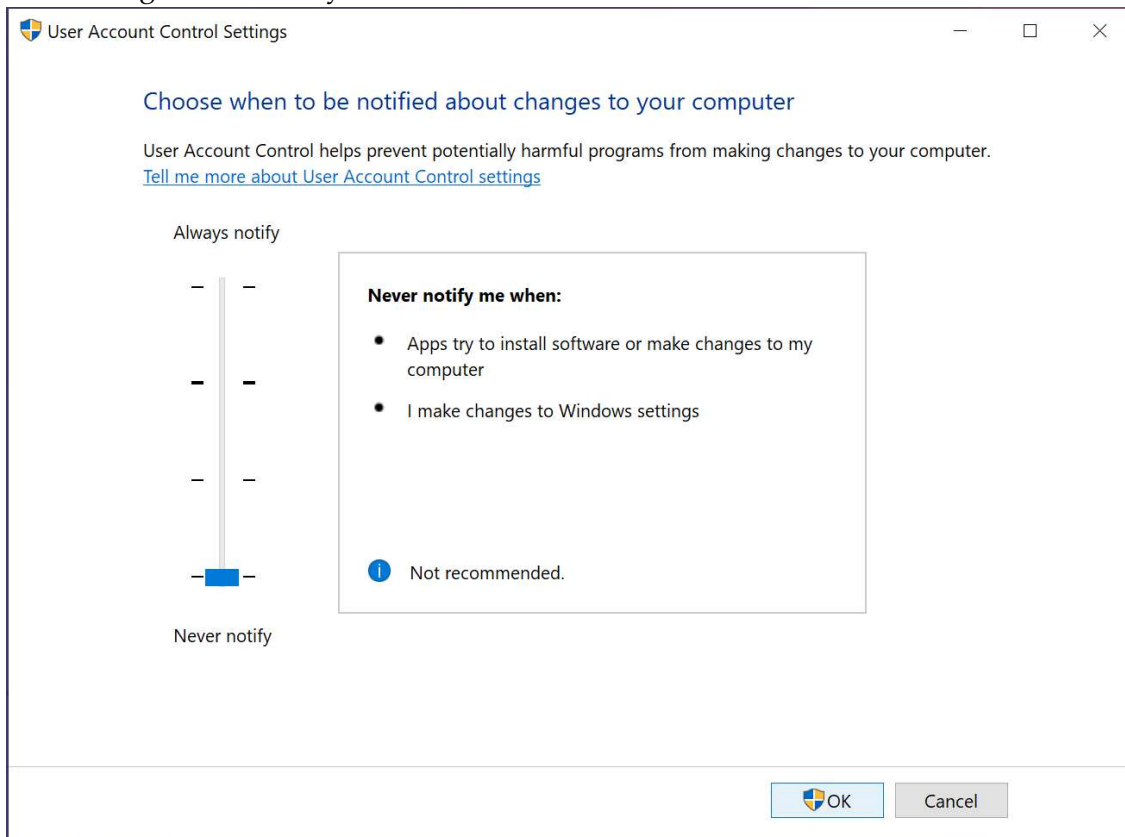

Figure 17: Disable UAC
3. Optional: Before the installation of the current version of the Telemed software, uninstall the EchoWave2 software and all other Telemed software from `\Control Panel\Programs\Programs and Features\` as shown in Figure 17. Reboot the PC. (This step 3 is not required for the first-time installation of the Telemed software.)